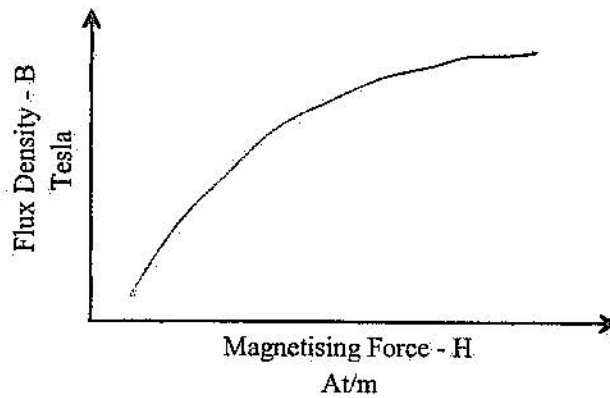

Figure 2
- For the circuit of figure 2, determine the coil current for the conditions shown. (625mA) $R_m = \frac{l}{\mu A}$
The graph showing the relationship between magnetising force and the flux density induced within the material is called the magnetisation curve for that material. The graph is also called the B-H curve. The arrangement of the axes for the B-H curve is shown in figure 2.